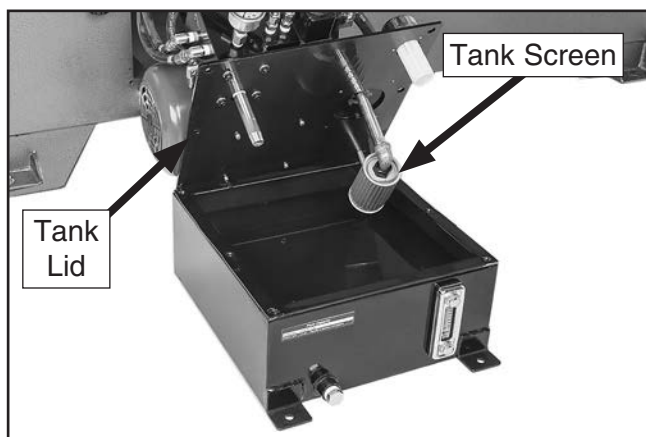

Figure 73. Hydraulic fluid tank lid removed to access for cleaning.
7. Clean tank screen (see **Figure 73**) with mineral spirits and blow dry with compressed air.
8. Inspect screen (see **Figure 73**) and tank fill cap for any holes, and replace if any damage exists.
9. Open tank by removing hex bolts that secure lid (see **Figure 73**).